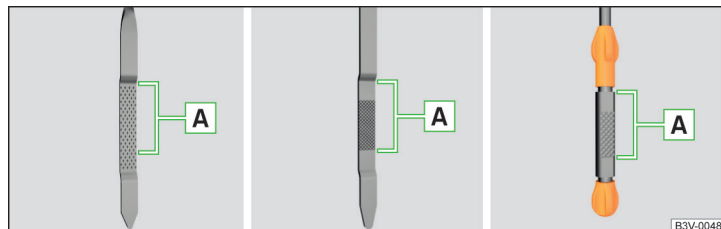

Fig. 320 Dipstick variants
The oil level must be in range **A** » Fig. 320. If the oil level is below the range **A**, refill the oil.
- The oil level must never fall outside range **A** » Fig. 320 - otherwise there is a risk of damaging the engine and the exhaust system.